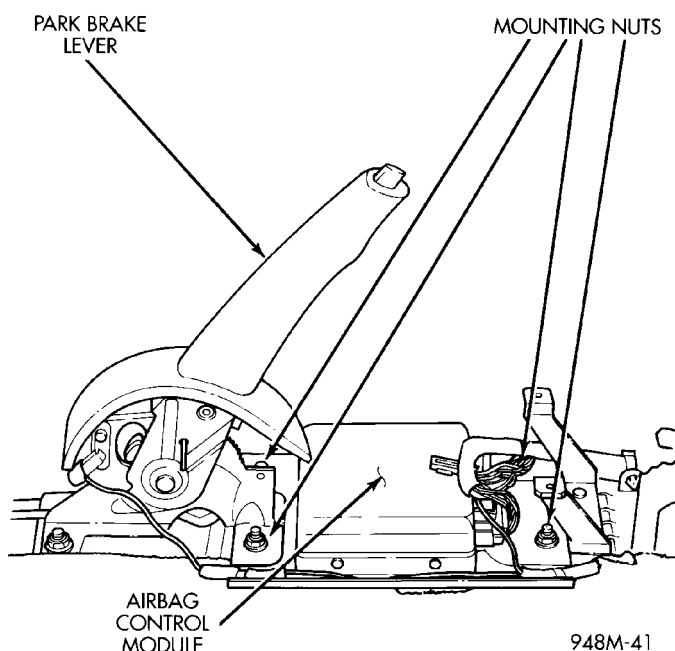

Fig. 12 Airbag Control Module
(12) Remove module mounting nuts and remove module (Fig. 12).